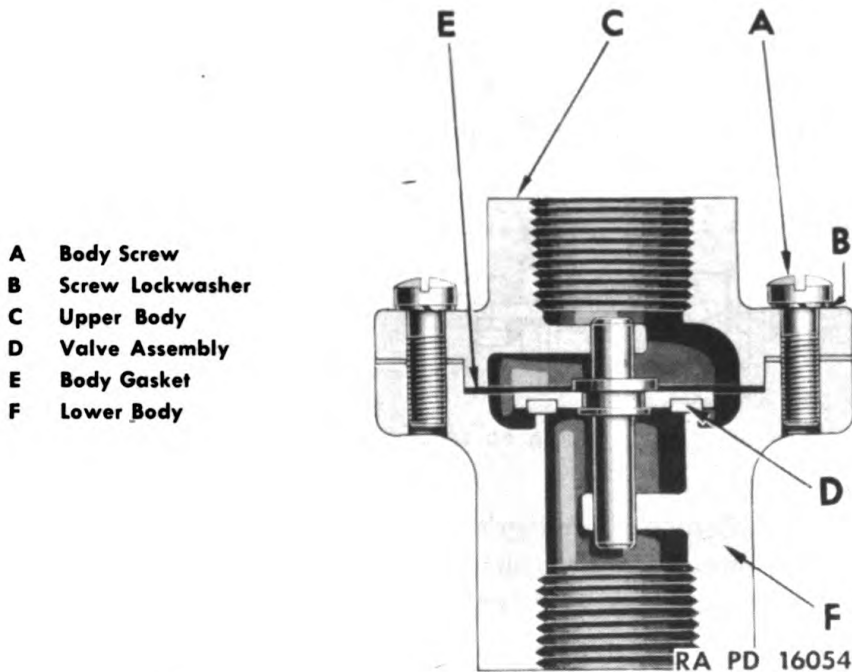

Figure 71—Sectional View of Vacuum Check Valve
c. Cleaning Check Valve (Fig. 71)
(1) Disassemble check valve